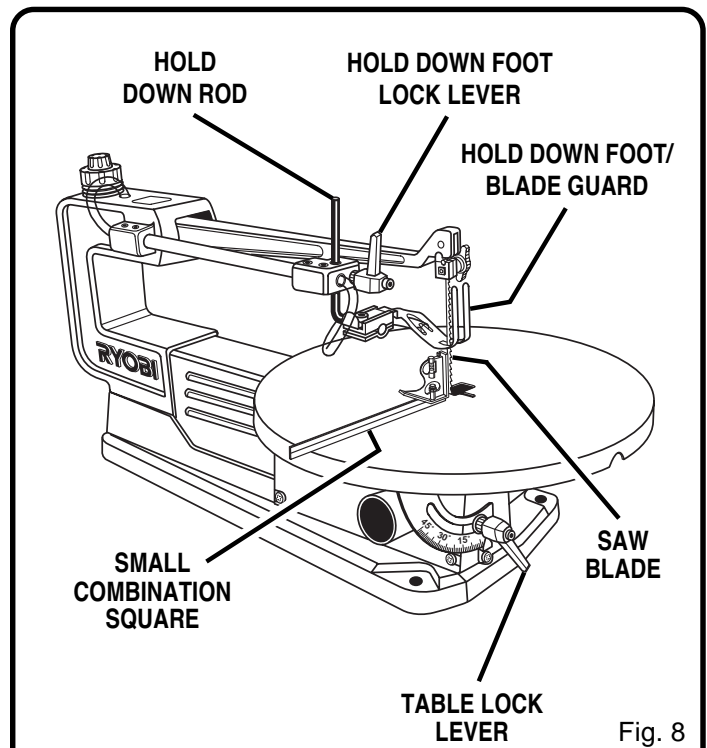

Fig. 8
See Figures 8 and 9.
- Loosen the hold down foot lock lever. See Figure 8.